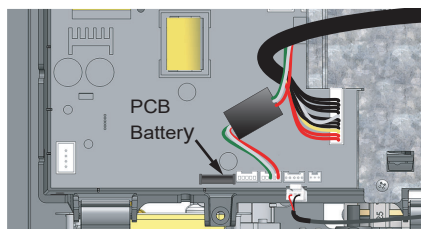

Figure 36 - Battery location on PCB
- 4 Locate the "coin" style battery slot on the lower part of the PCB shown in Figure 36